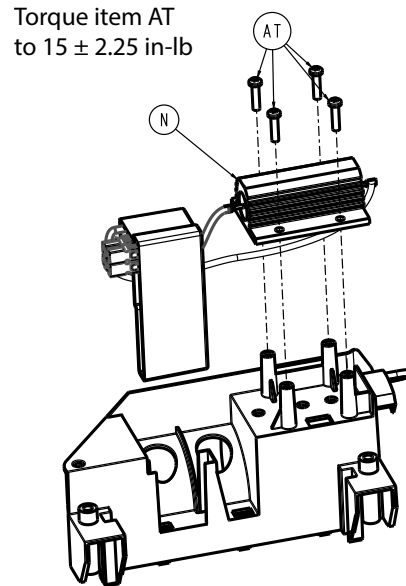

Figure 27 –
4. Using a T20 Torx driver, remove the four pan head thread forming screws (AT) that secure the backdrive board (N) to the power box PCBA mount (Figure 27). Save the screws.
**Note** - Using a torque wrench, torque the pan head thread forming screws (AT) to  $15 \pm 2.25$  in-lb when you reinstall.